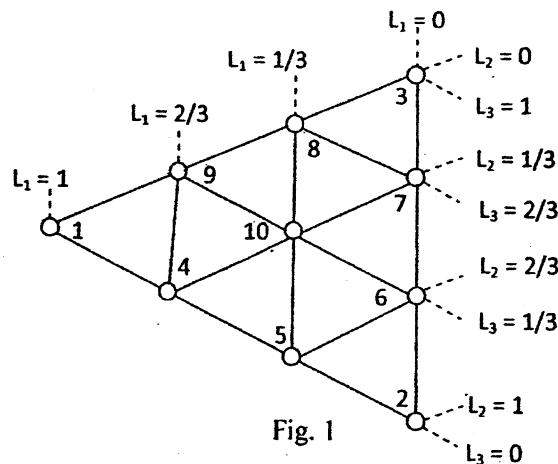

Fig. 1
3. a) Derive the shape function for the element as shown in the Fig. 1. [8]
(b) Determine the stiffness matrices for the element as shown in Fig. 1.  $A=300 \text{ mm}^2$  and  $E=2.1 \times 10^5 \text{ MPa}$ . [10]